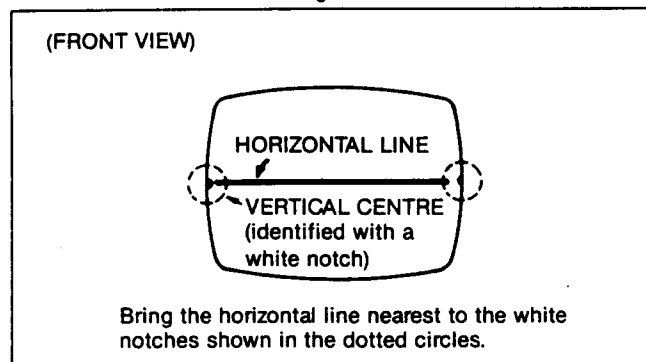

Fig. B-4
6. Check the vertical centre position by displaying a horizontal line. (Select the CUT-OFF SERVICE SWITCH from N to S and a HORIZONTAL LINE will appear.) Unless correct, bring it to the nearest centre by rotating the two tabs, kept at an angle, together in either direction. (Fig. B-4)